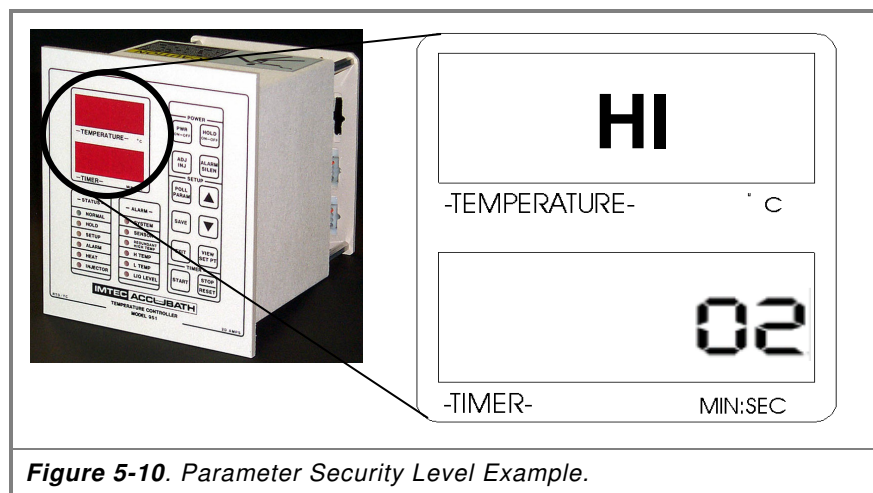

Figure 5-10. Parameter Security Level Example.
3. To move past a parameter without changing its security level, press POLL PARAM. When a parameter displays, press VIEW SET PT. The parameter’s current security level will display in the Temperature display window, Figure 5-10).